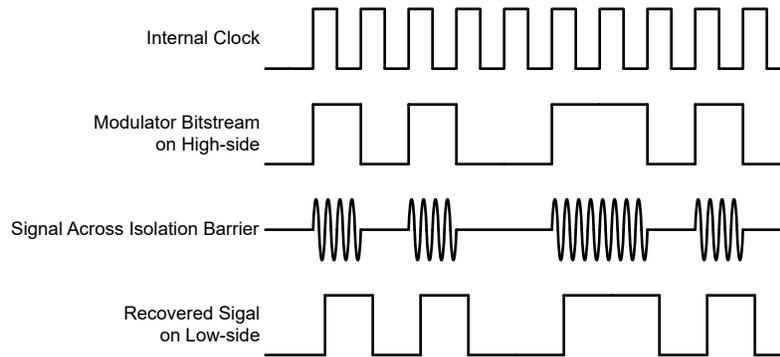

Figure 7-1. OOK-Based Modulation Scheme
The AMC3311 uses an on-off keying (OOK) modulation scheme, as shown in Figure 7-1, to transmit the modulator output bitstream across the SiO_2 -based isolation barrier. The transmit driver (TX) depicted in the Functional Block Diagram transmits an internally-generated, 480-MHz carrier across the isolation barrier to represent a digital *one* and does not send a signal to represent a digital *zero*.